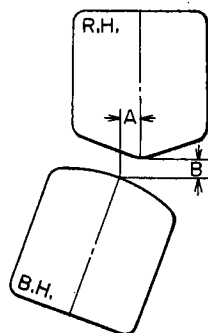

Fig. 4
- (g) In case frequency response varies from specification, adjust gap between Recording and Bias heads until specification is met (as shown in Fig. 4).